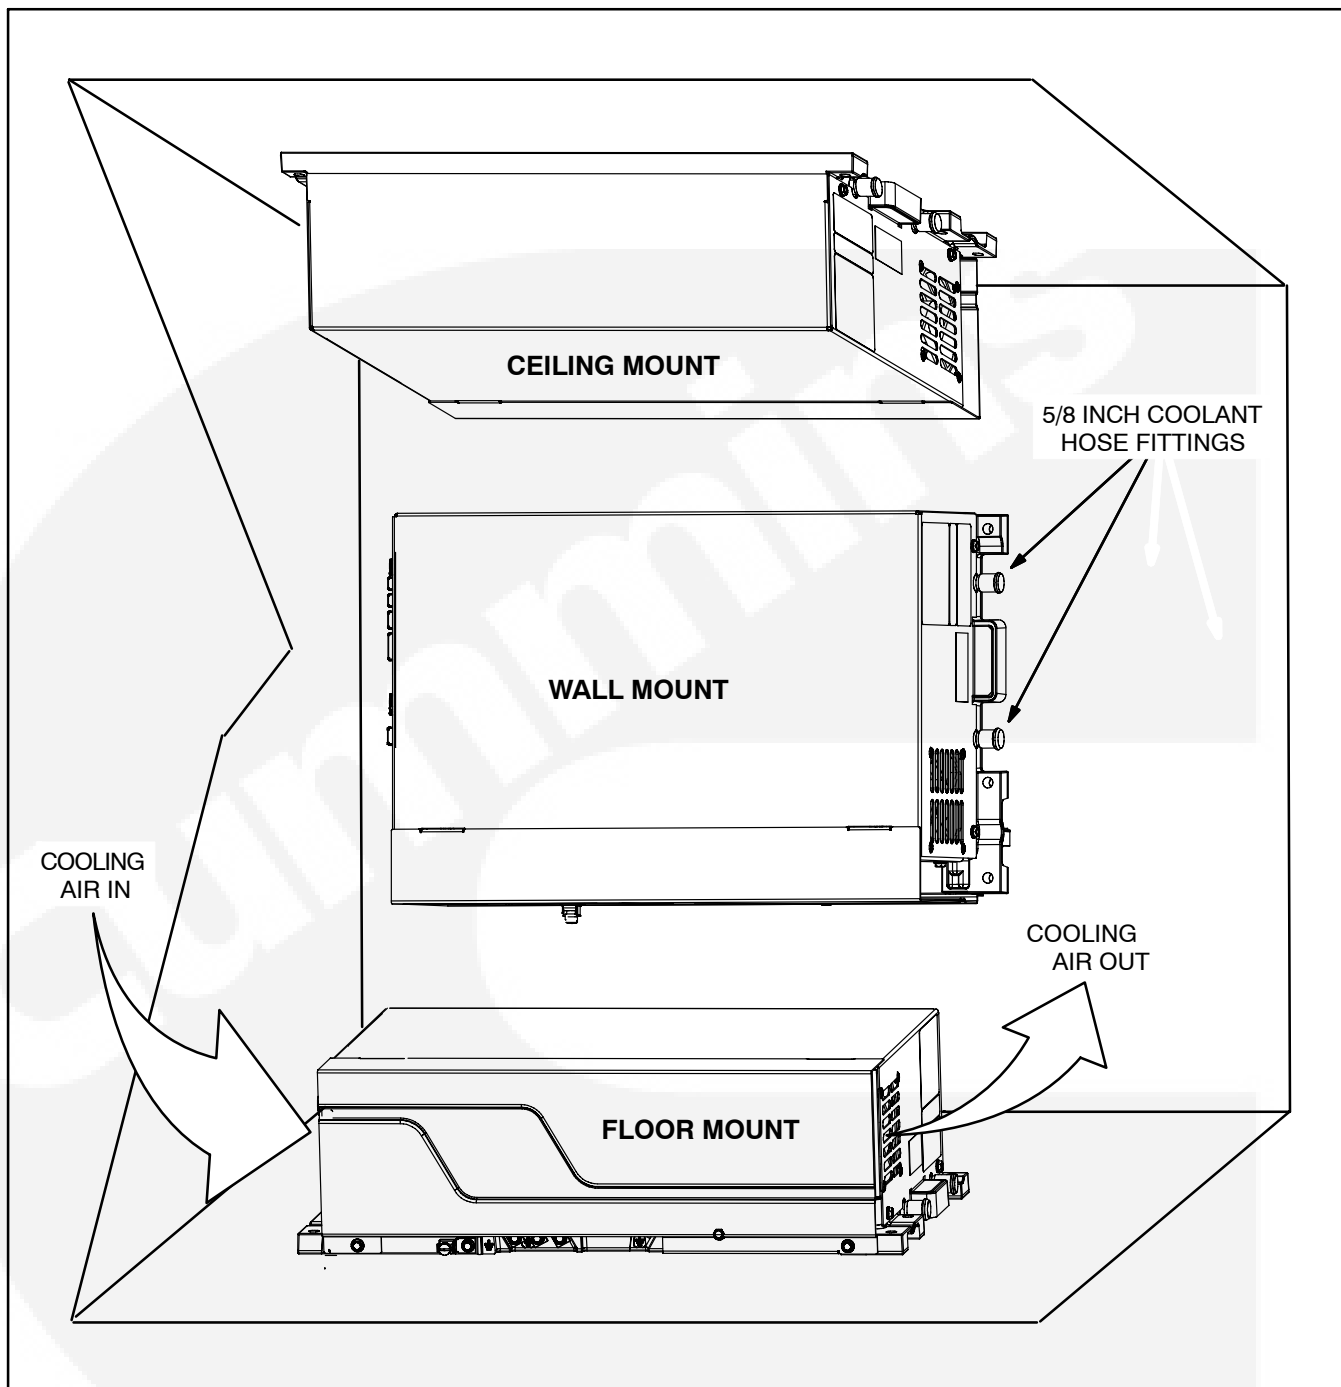

FIGURE 3-1. INVERTER/CHARGER—ACCEPTABLE MOUNTING POSITIONS AND ORIENTATIONS
6. When secured to a wall, the Inverter/Charger must be level and the coolant hose fittings must point to either side, not up or down. This is to prevent coolant from entering the electronic components inside the Inverter/Charger if there is a hose leak. Figure 3-1 illustrates acceptable mounting positions and orientations for each Inverter/Charger. They Inverter/Chargers not be bolted together, one on top of the other. A mounting frame must be provided for the top Inverter/Charger if one is located above the other.